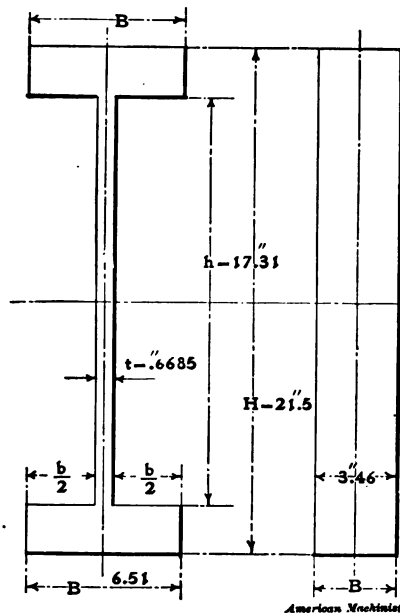

FIG. 25. A PRACTICAL EXAMPLE.
The distance h between flanges, Fig. 25, is given by equation (31):
The section is now completely determined (see Fig. 25) and the problem is solved. However, the sizes obtained through the formulas—such as the thickness of the web, for instance—may have to be modified to facilitate the